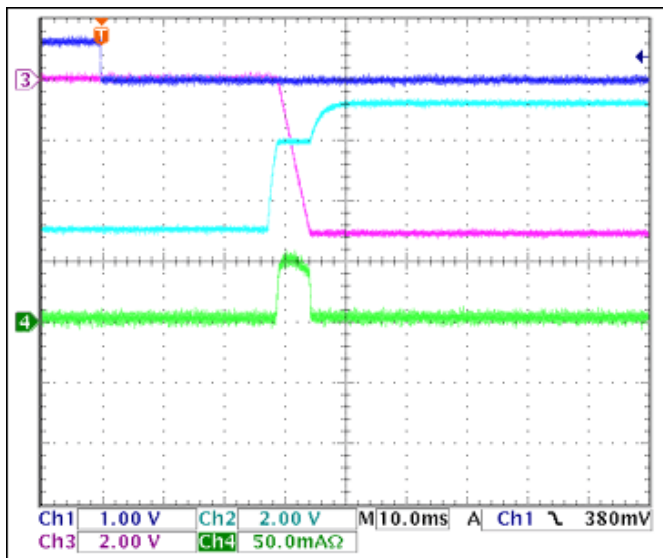

Figure 11. -5V turn-on waveforms, no load
-5V load-capacitor charging current $\approx 55\text{mA}$ (see **Figure 11**)